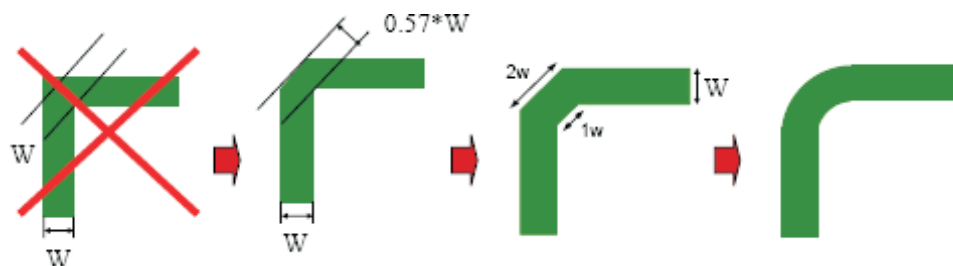

Figure 13. Poor and Good Right Angle Bends
- Avoid right-angle bends in a trace and try to route them at least with two 45° corners. To minimize any impedance change, the best routing would be a round bend (see Figure 13).